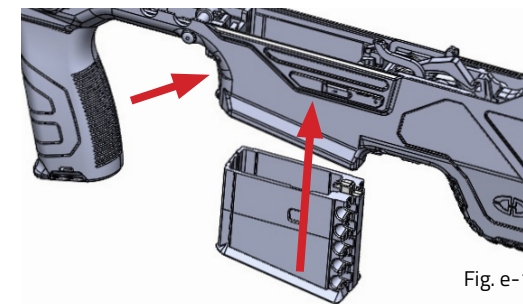

Fig. e-1
2. Press and hold the magazine release. (Fig. e-1)
3. Insert the magazine spacer into the magazine well in the lower receiver from the bottom until it snaps into position. (Fig. e-1)